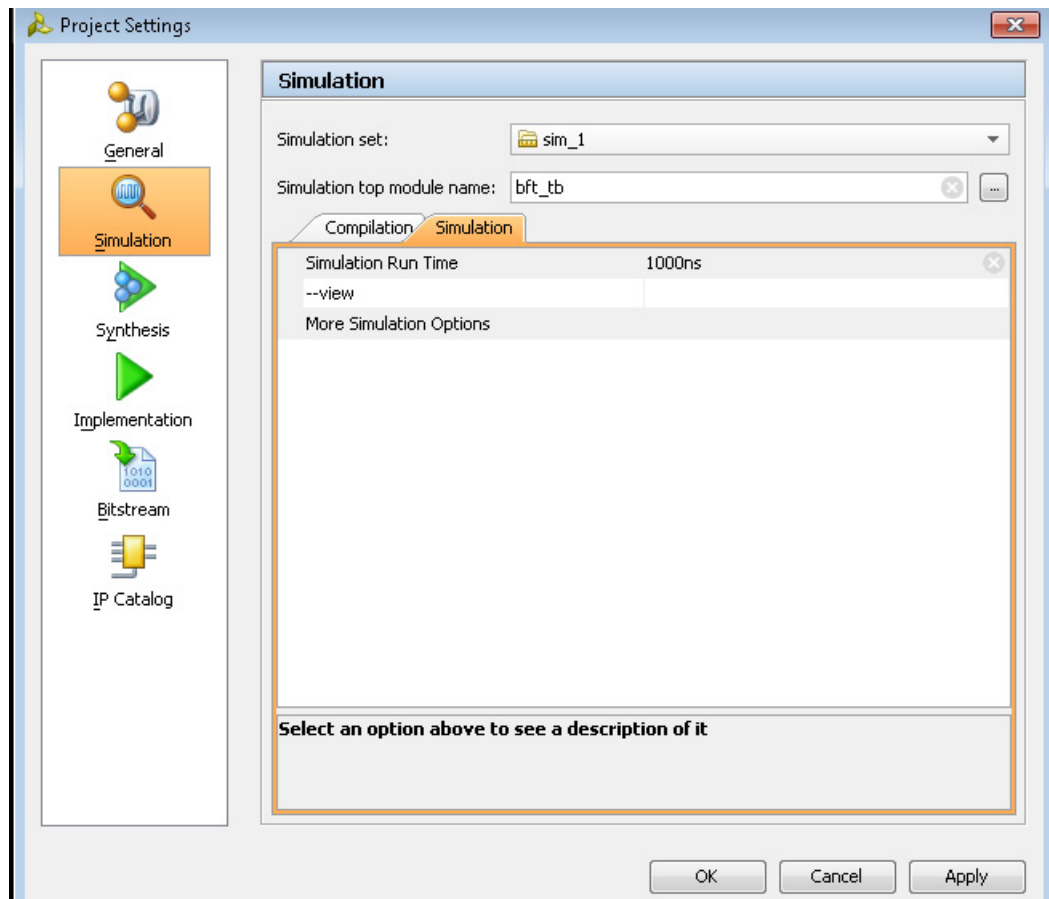

Figure 3-4: Project Settings: Simulation: Simulation View
- **Simulation View:** Provides available simulation options. You can select an option to see a description. Figure 3-4 shows the Simulation view: